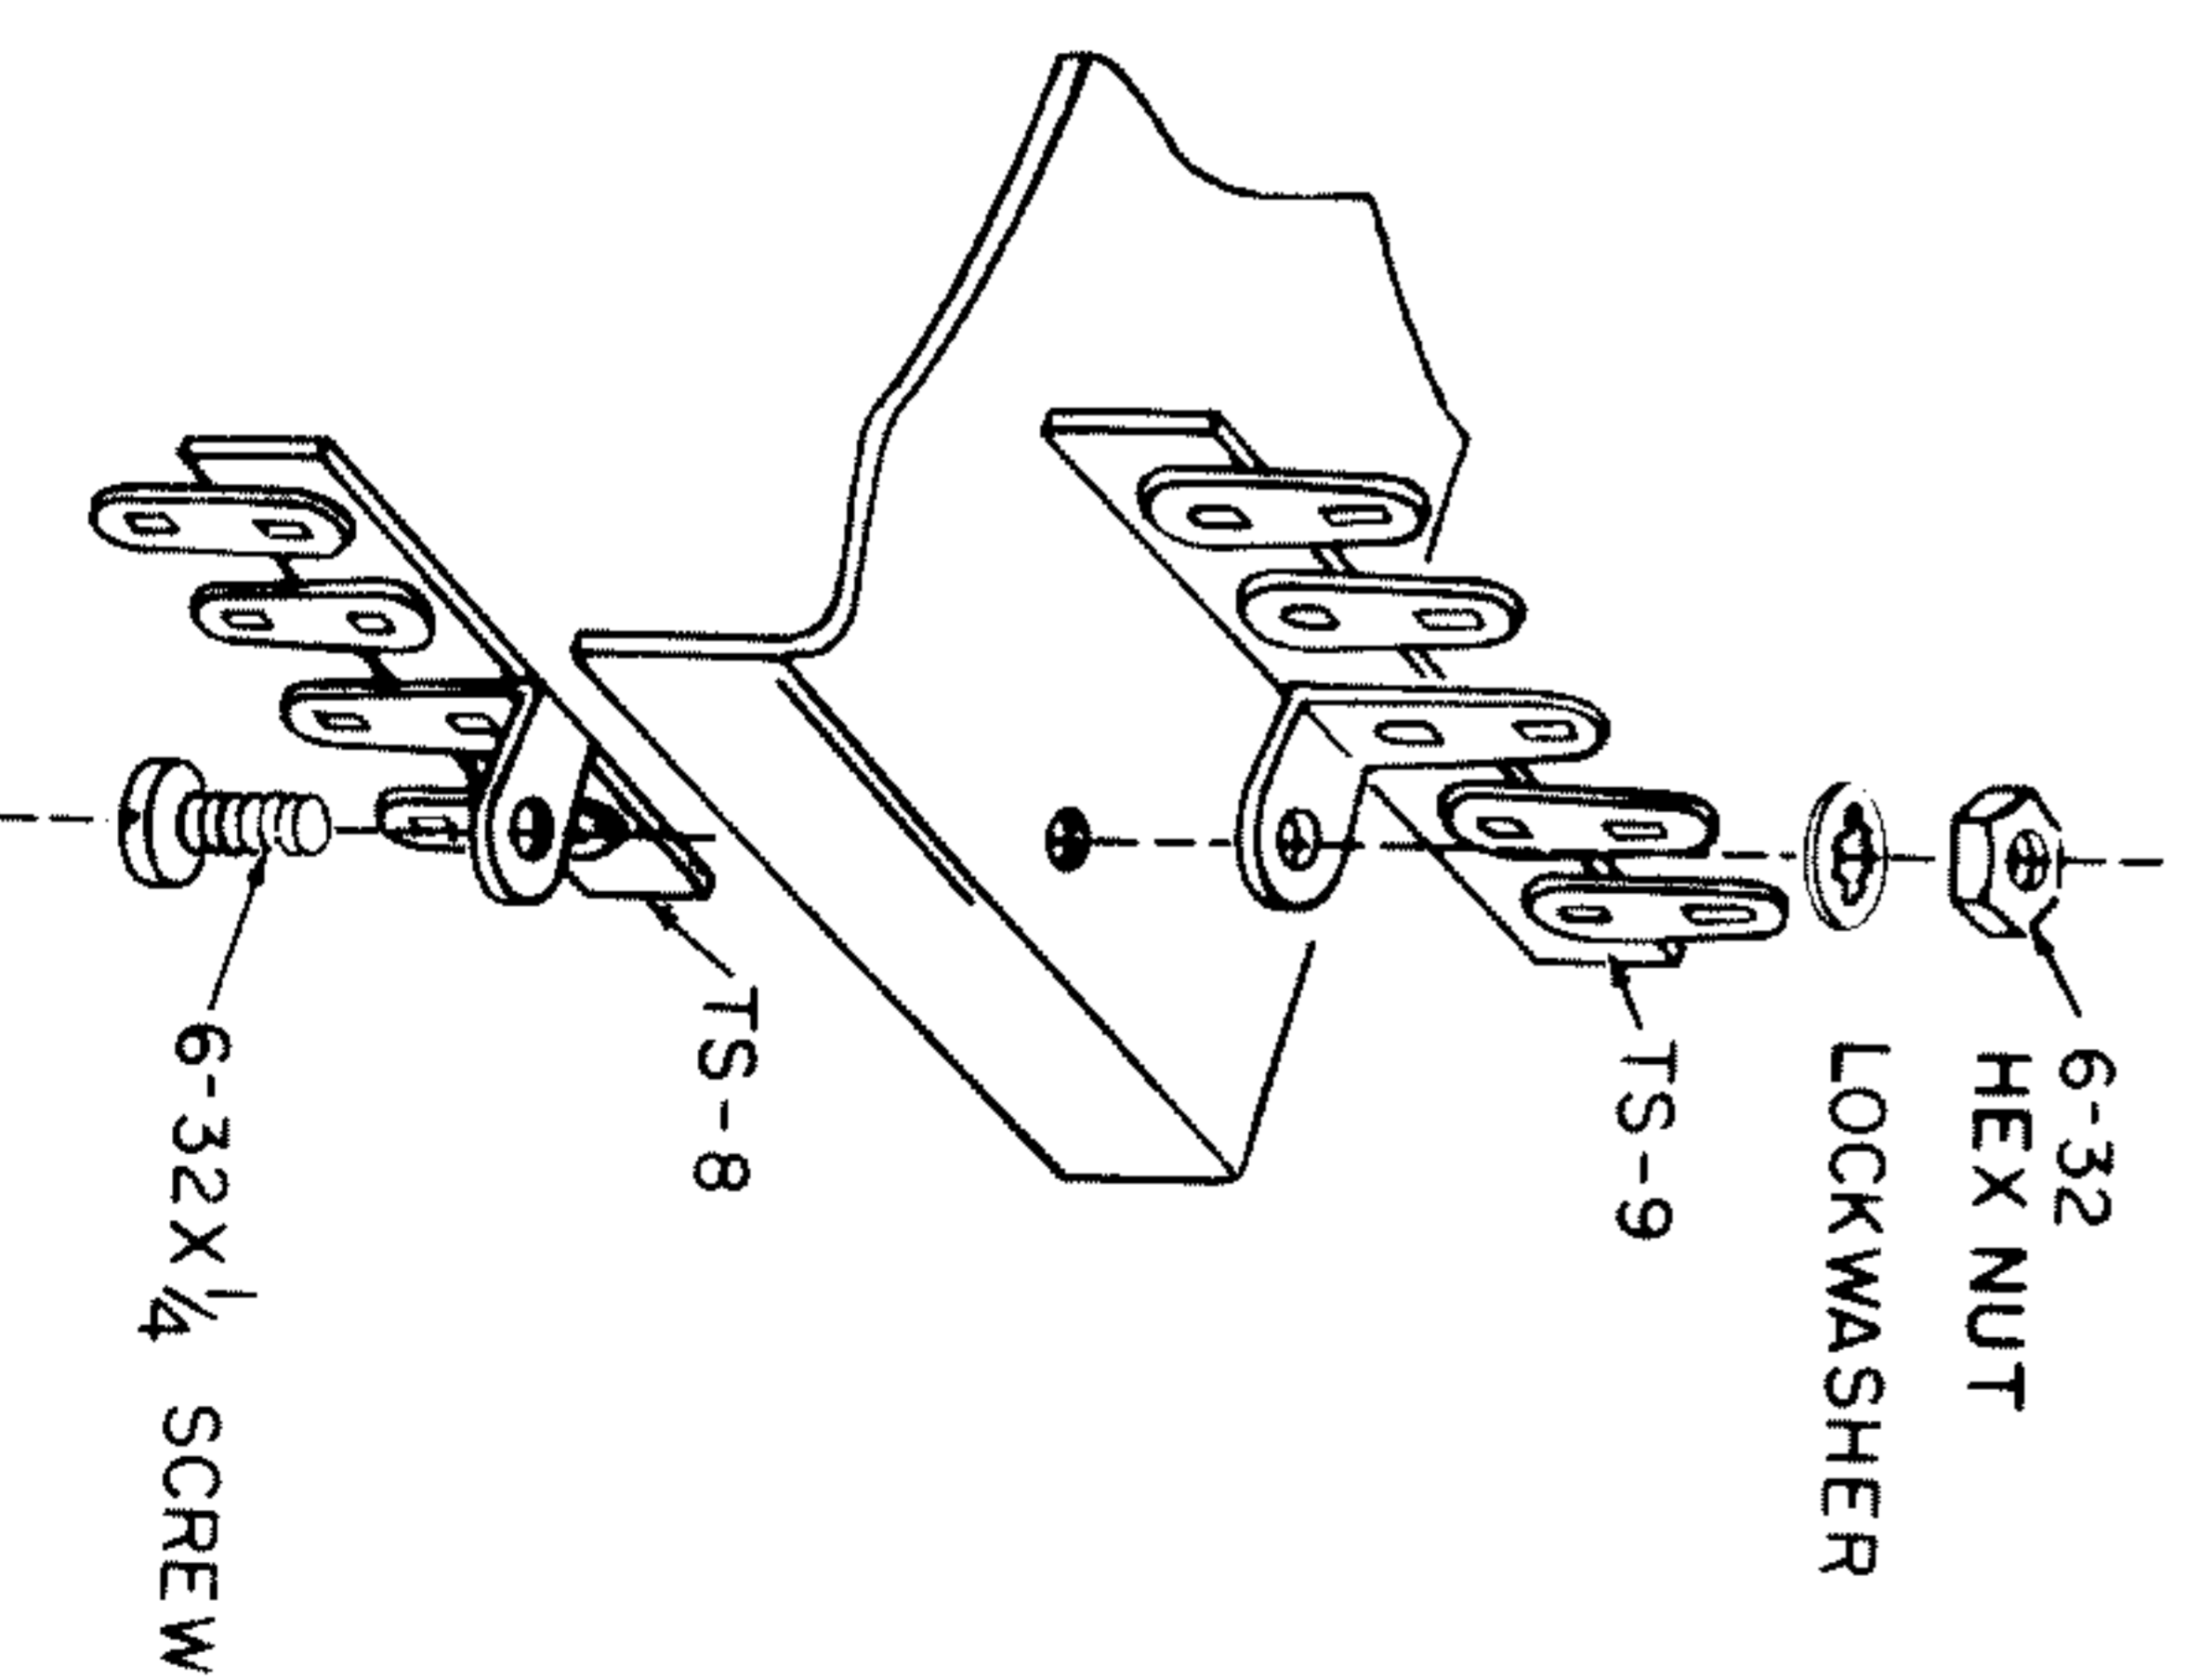

FIGURE 5
- TS-8, 4-terminal strip and TS-9, 5-terminal strip. See Figure 5. Position TS-9 on top of the chassis and TS-8 on the bottom. Fasten these parts with a 6-32  $\times$   $\frac{1}{4}$ " screw, lockwasher, and nut.